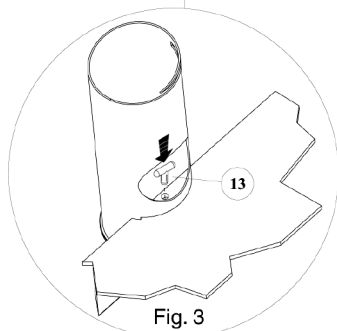

Fig. 3
- J. CAREFULLY PLACE the bottom (middle sized) shelf (9) into position with the glass shelf locking pin holes facing the rear of the shelf and inserted through the bottom slots of the CMS® post (3). LOCK the glass shelf in place, from the inside of the CMS® post, using the supplied plastic shelf locking pins (13) as shown in Fig. 3.
- K. CAREFULLY PLACE the center (smallest sized) shelf (10) into position with the glass shelf locking pin holes facing the rear of the shelf and inserted through the middle slots of the CMS® post (3). LOCK the glass shelf in place, from the inside of the CMS® post, using the supplied plastic shelf locking pins (13) as shown in Fig. 3.
- L. CAREFULLY PLACE the top (largest sized) shelf (12) into position so that it is evenly centered, and resting on the top front of the side frames, rear support bar and top of the CMS® post (3). PRESS DOWN GENTLY to secure the top glass shelf to the furniture.